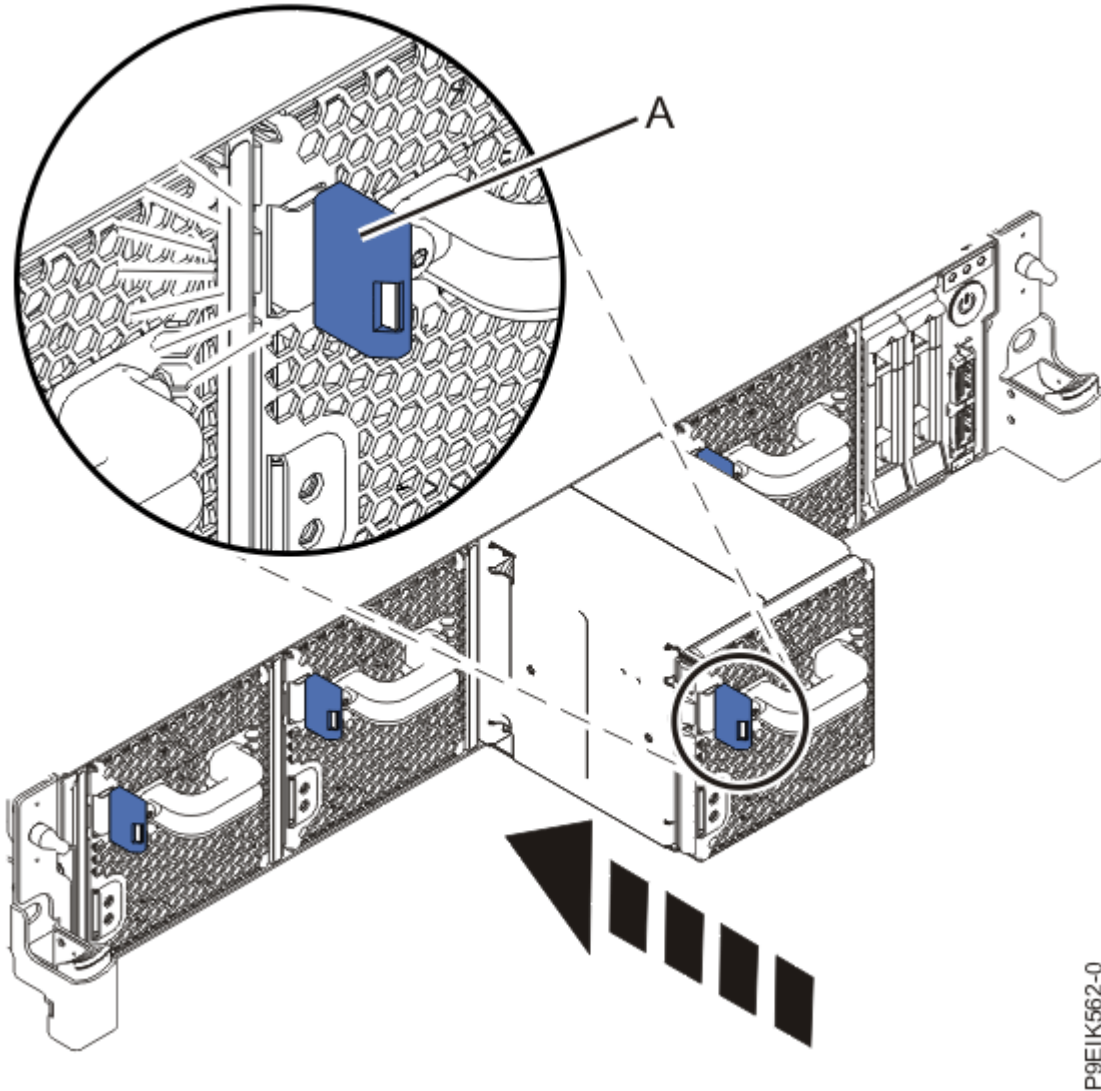

Figure 20. Replacing a fan in the system
2. Using your hand to support the bottom of the fan, align the fan **(A)** with the fan slot and slide it into the system until the tab **(A)** locks in place as shown in Figure 20 on page 26.